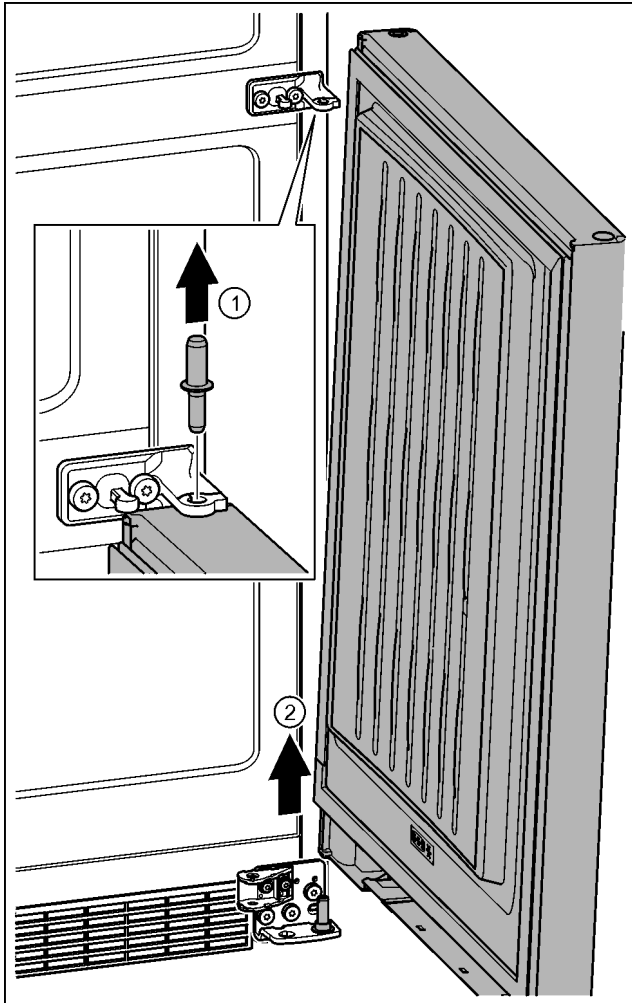

Fig. 22
- ▶ Pull out the bolts towards the top. *Fig. 22 (1)*
- ▶ Swing the door out, pull it upwards and set it aside. *Fig. 22 (2)*